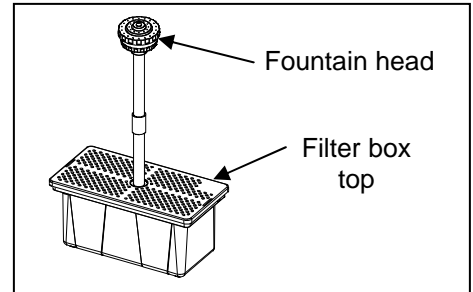

Fig. 6
6. Place the filter box top over the filter box bottom and connect the fountain head to the top extension tube. Fig. 6